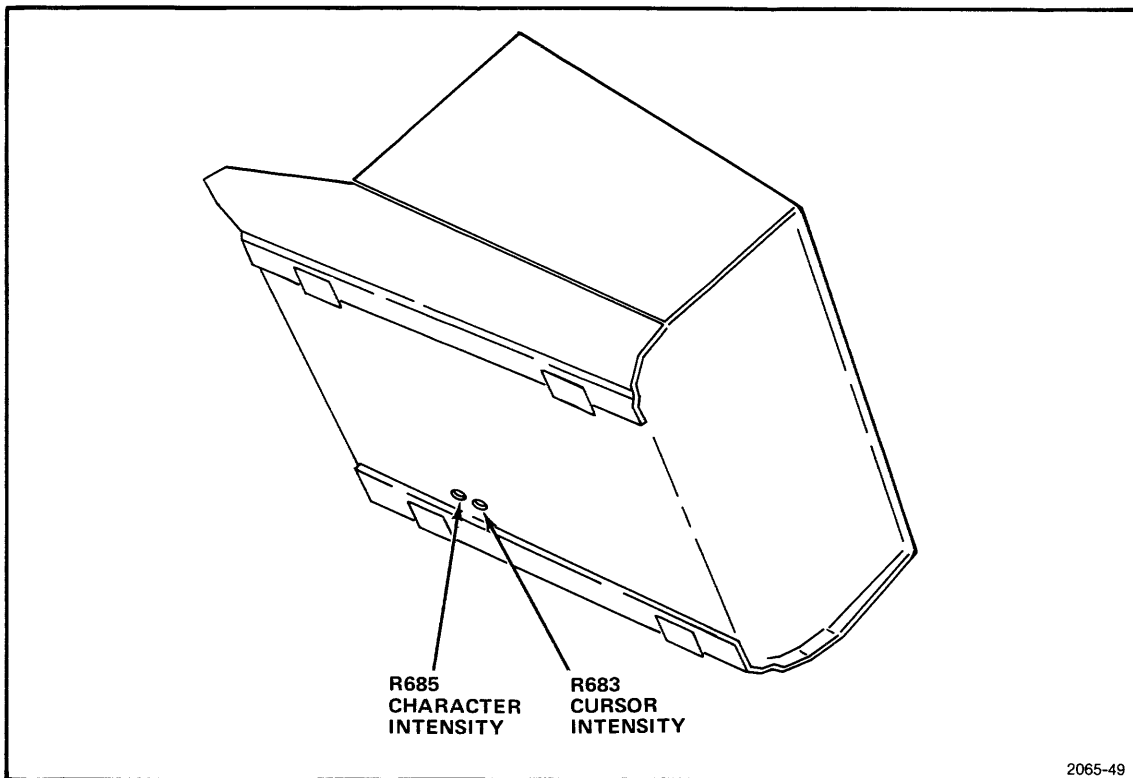

Fig. 4-5. Intensity adjustments underneath the 4051.
5. Tilting the 4051 up on its side, adjust cursor intensity (R683 in Fig. 4-5) until the cursor does not store. To check for storage, press the space key of the Line Editor set while adjusting intensity. This spot is accessed with a screwdriver or insulated alignment tool inserted through the hole in the bottom left of the instrument. There are two holes—use the one towards the *REAR*. (If the cursor remains stored, recheck the crt BIAS and OP LEVEL adjustments).
9. Page and repeat the previous procedure of printing @ – signs. This time adjust the character intensity (R685) located under the chassis and just forward from the cursor intensity pot (Fig. 4-5).